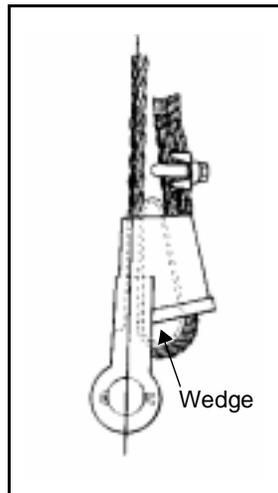

Figure 13-2. Wedge-Socket Fastener
- Extend the dead end of the wire rope a distance of six to nine times the wire rope's diameter beyond the socket when using a wedge-socket fastener (*Figure 13-2*). Clamp the dead end of the wire rope to an extra piece of short wire rope. Place the clamp as close to the wedge as possible. Never clamp the dead end of wire to the live end. The U-bolt should bear against the tail, and the saddle of the clip should bear against the short extra piece.